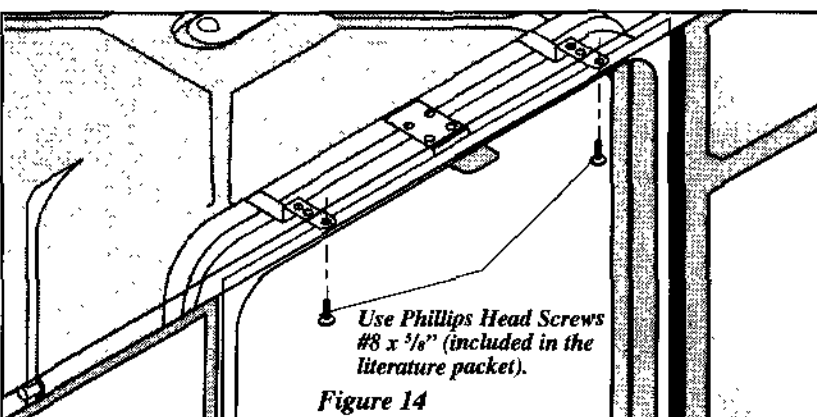

Figure 14
1. Adjust levelers (see Step 5) so mounting brackets touch underside of countertop. **IMPORTANT:** Dishwasher must rest on floor—do not hang from countertop. See Figure 14.